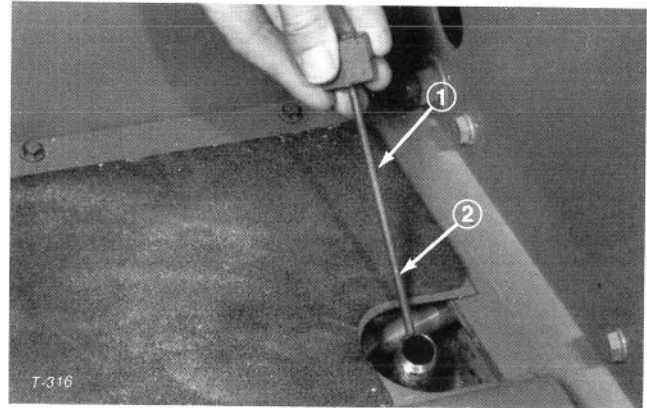

Figure 79
7. Remove dipstick from axle filler tube and fill axle to proper level (Fig. 79). Reinstall the dipstick.